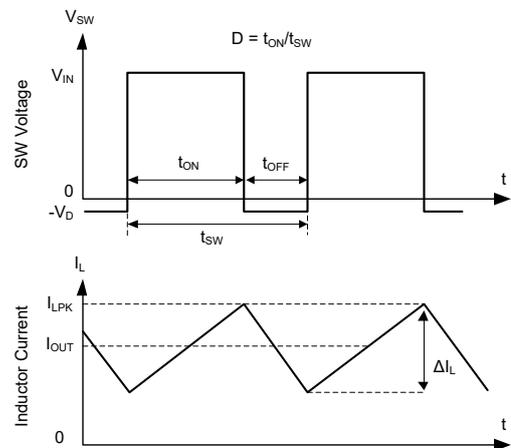

Figure 3. Converter Switching Waveforms in CCM
The Functional Block Diagram and basic waveforms of this Buck synchronous converter are shown in Figure 2 and Figure 3. The N-MOSFETs are used for high-side (HS) and low-side (LS) (synchronous rectifier) switches. The HS duty cycle ( $D = t_{ON}/t_{SW}$ ) is controlled in closed loop to regulate and maintain the output voltage at a constant level. The switching period is  $t_{SW} = 1/f_{SW}$ , and the HS on-time is  $t_{ON}$ . When HS is turned on, the SW node voltage sharply rises towards  $V_{IN}$ , and the inductor current ( $I_L$ ) starts ramping up with  $(V_{IN} - V_{OUT})/L$  slope. When HS is turned off, the LS is turned on after a very short dead time to avoid shoot-through, and  $I_L$  ramps down with  $-V_{OUT}/L$  slope. When the inductor current is continuous, the output voltage is proportional to the input voltage and duty cycle ( $V_{OUT} = D \times V_{IN}$ ) if component parasitics are ignored.